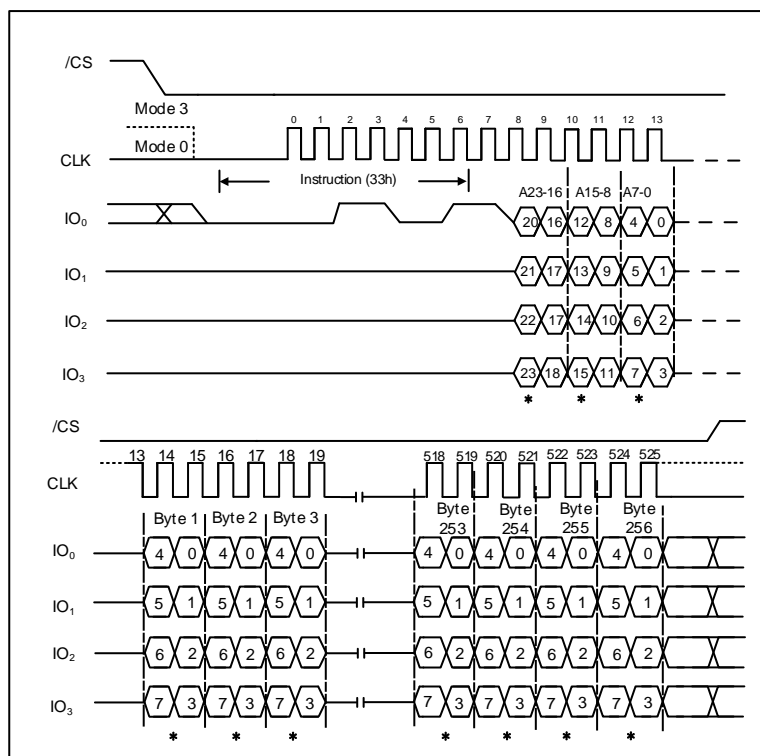

Figure 20. Quad Page Program Instruction (SPI Mode only)
The Quad Page Program (33h) instruction is similar to the Quad Input Page Program (32h) instruction except that address and data bits are both input and output through four pins IO0, IO1, IO2 and IO3. The Quad Page Program can improve performance for PROM Programmer and applications that have slow clock speeds <5MHz. Systems with faster clock speed will not realize much benefit for the Quad Page Program instruction since the inherent page program time is much greater than the time it takes to clock-in the data. To use Quad Page Program the Quad Enable (QE) bit in Status Register-2 must be set to 1. The Quad Page Program instruction sequence is shown in Figure 20.